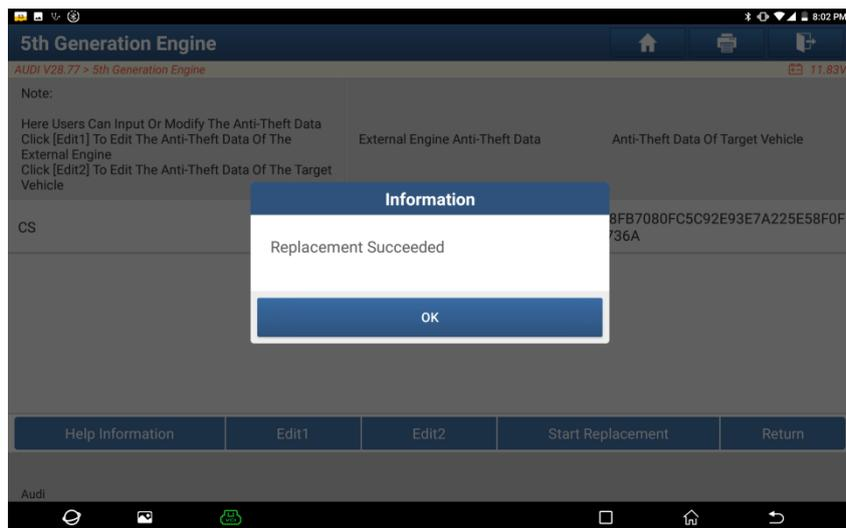

Figure 29
3.2.2.5 After the Engine is replaced, click [OK], and it will prompt Replacement Succeeded, as shown in Figure 29. At this time, the Anti-Theft data of target vehicle has been synchronized to the external Engine.